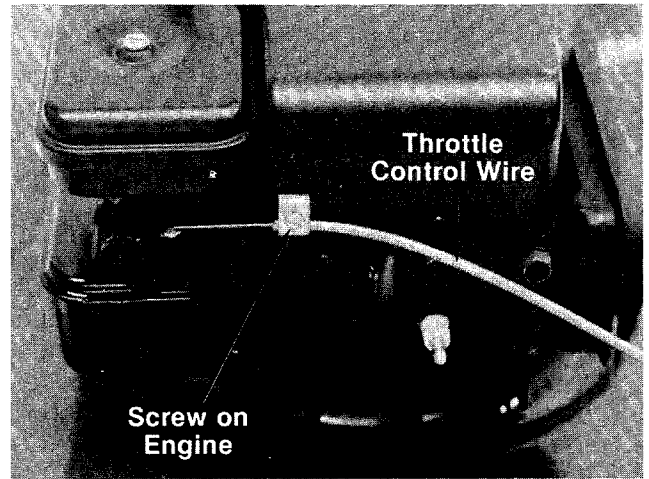

FIGURE 16.
1. Loosen, but do not remove, screw securing throttle control wire assembly at engine. See figure 16.